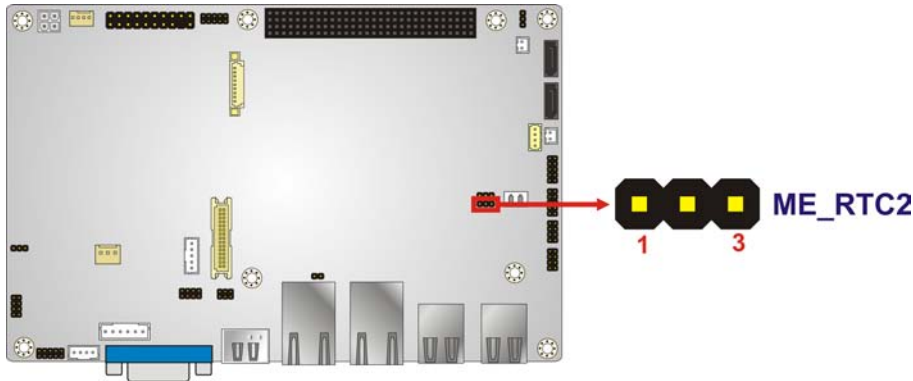

Figure 4-9: Clear CMOS Jumper
- Jumper Location: See **Figure 4-9**